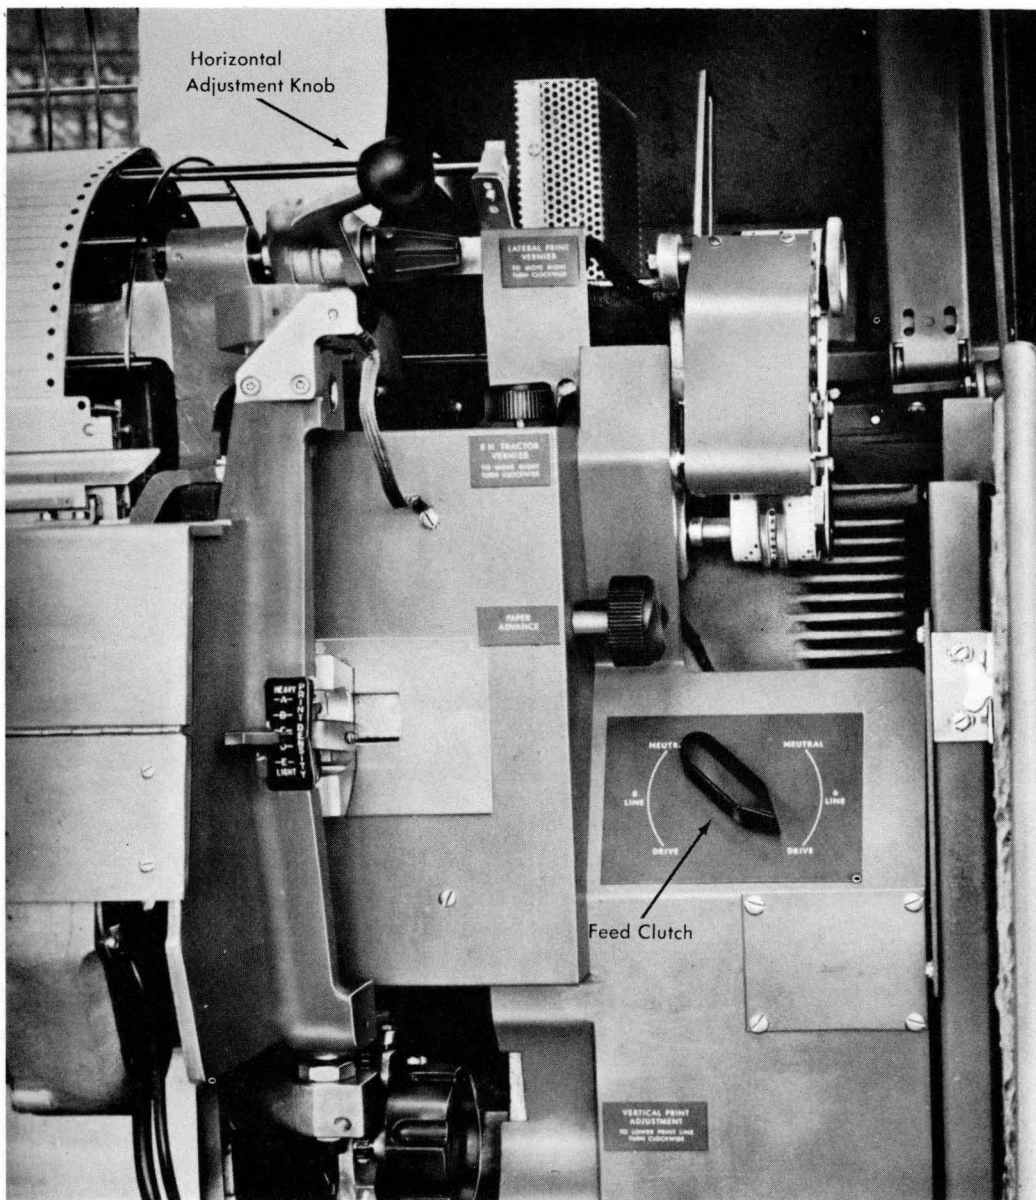

Figure 22. Carriage Controls
**1403 Manual Controls (Figure 22)**
This device (Figure 22) positions the printing mechanism horizontally. When the lever is raised, the mechanism unlocks, and can be positioned horizontally within its 2.4-inch travel.
2. Turn the feed clutch to a disengaged (neutral) position (Figure 22).